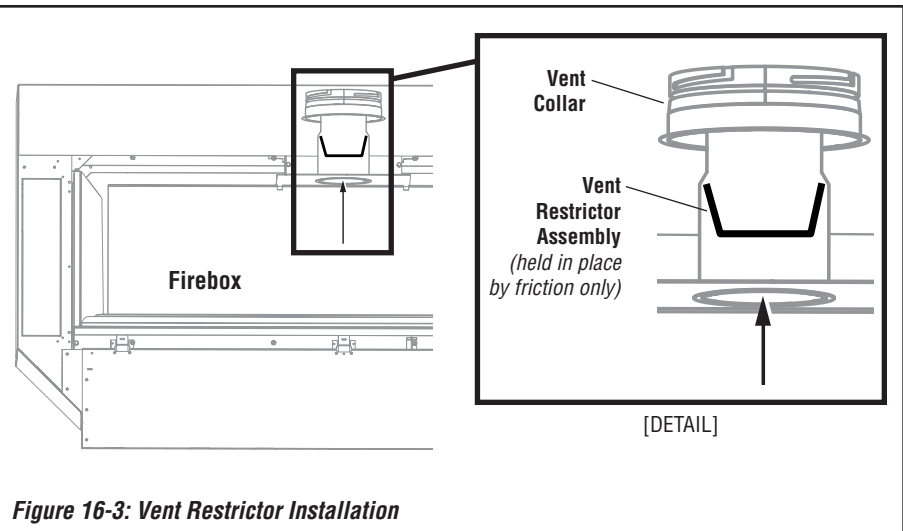

Figure 16-3: Vent Restrictor Installation
3. Install the vent restrictor assembly from inside the firebox. With the **flaps** on the **vent restrictor base** facing UP, carefully bend the flaps inward just enough to slide the assembly up into the **vent collar**, as shown in **Figure 16-3**.